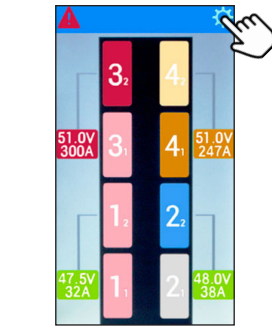

Figure 52. Main Menu
- Step 1.** Access the settings menu by tapping the gear icon located in the upper right-hand corner (see Figure 52).